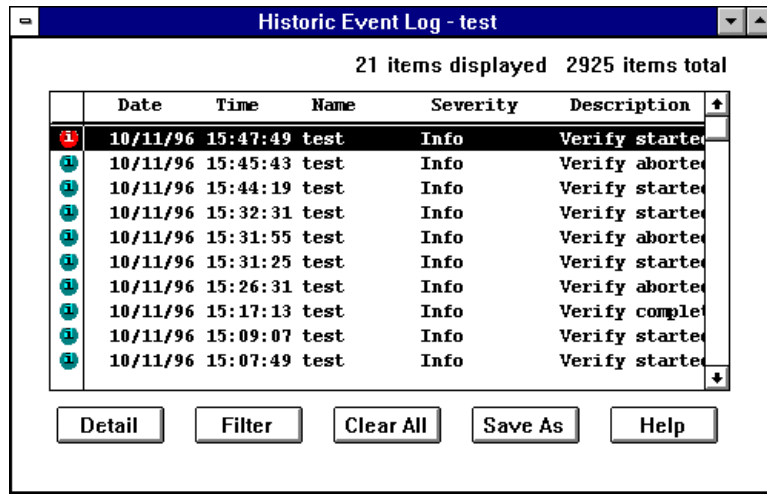

Figure 7-7. Server Historic Event Log Window
- 1 Click the  button on the toolbar. The Server Historic Event Log window for the currently selected server appears, as shown in Figure 7-7.